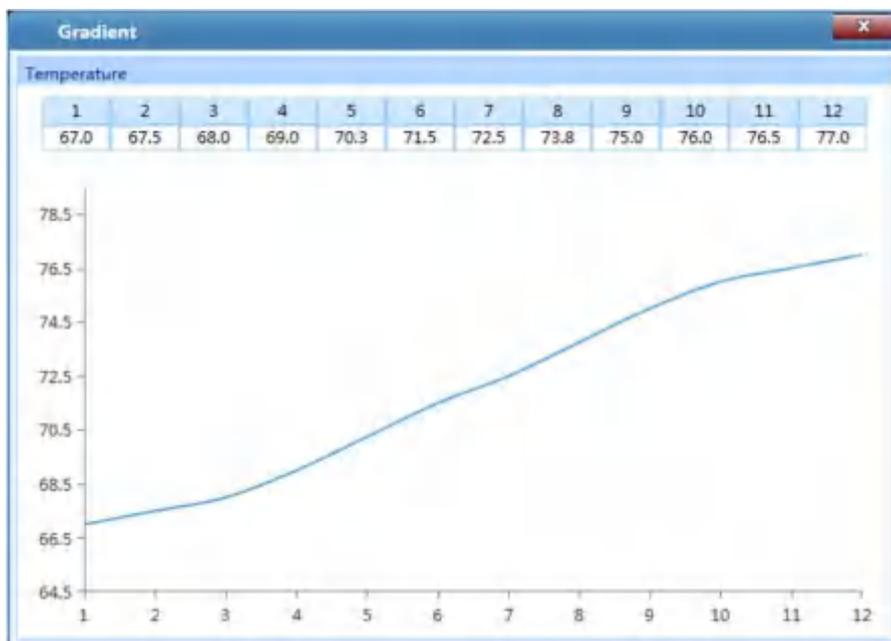

Figure D-4.6e. Step Setting Dialog Box – Gradient Temperature Details
- ▶ **Details:** User can click < **Details** > to the specific gradient temperatures of each column and the Gradient distribution, as shown in figure D-4.6e.